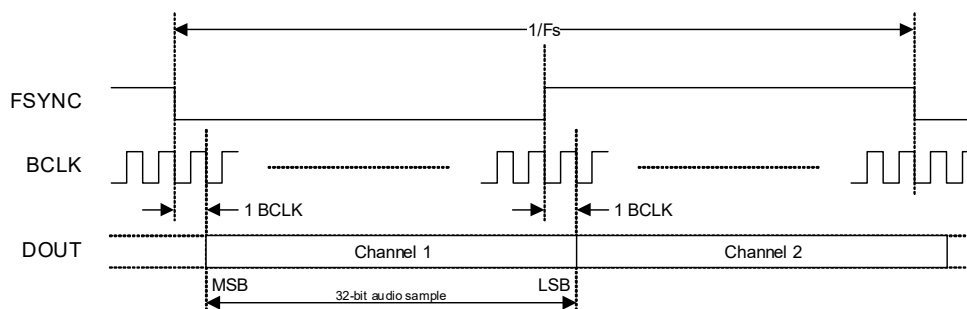
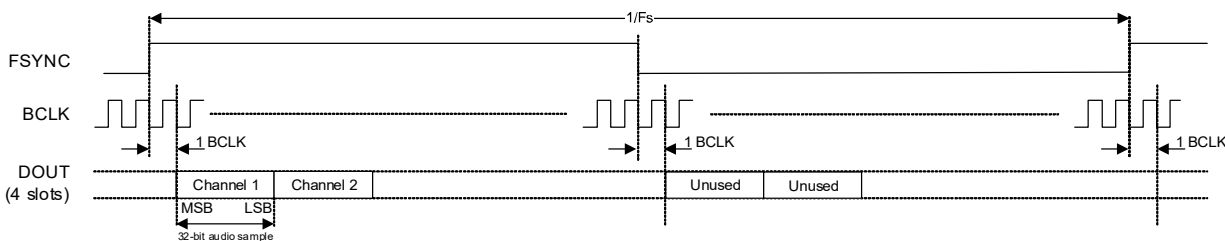

Figure 4-17. I²S Data Format
Figure 4-20. TDM Data Format, 4-Slot Example (FSYNC = Square Wave)
The ASP data format in I²S, Left-Justified, and TDM interface modes as illustrated in Fig. 4-17 through Fig. 4-20. Refer to Table 4-15 for the applicable definition.
- If I²S data format is selected, the ASP supports audio channels 1–2 as shown in Fig. 4-17. The minimum BCLK rate is 64×Fs (where Fs is the sample rate). In ASP Primary Mode, the minimum BCLK rate of 64×Fs is not supported for sample rates of 16 kHz or 32 kHz. A higher BCLK frequency can be used, resulting in unused BCLK cycles between the LSB of one sample and the MSB of the next.
An example of the 4-slot TDM format in ASP Primary Mode with the FSYNC signal configured as a square wave is shown in Fig. 4-20. In this example, audio channels 0 and 1 occupy TDM slots 0 and 1 in the high (Logic 1) phase of the FSYNC signal, TDM slot 0 and 1 in the low (Logic 0) phase of the FSYNC signal are unused.